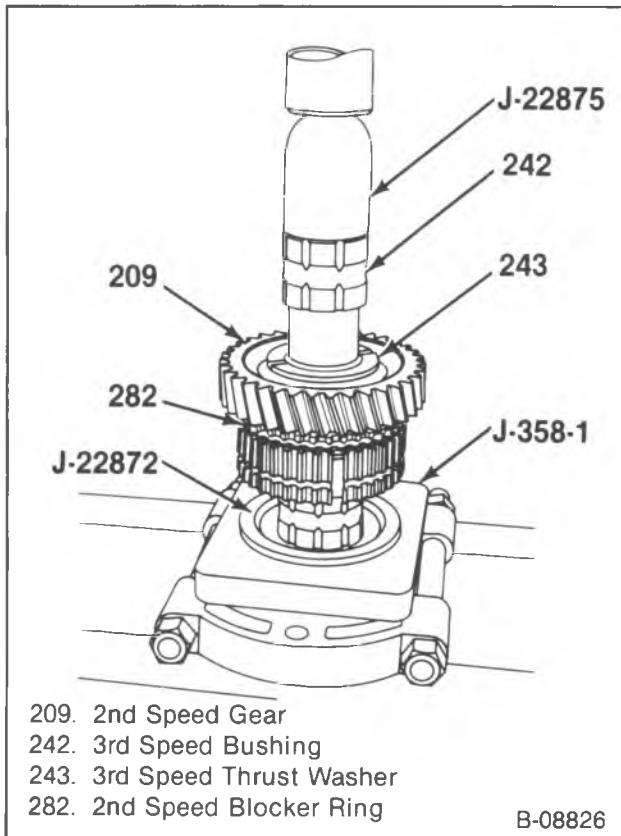

Figure 39—Installing the 3rd Speed Gear Bushing
6. 2nd speed blocker ring, the 2nd speed gear (209) and the 3rd speed thrust washer (243) (figure 39).
7. 3rd speed bushing (242) using J-22875 (figure 39).